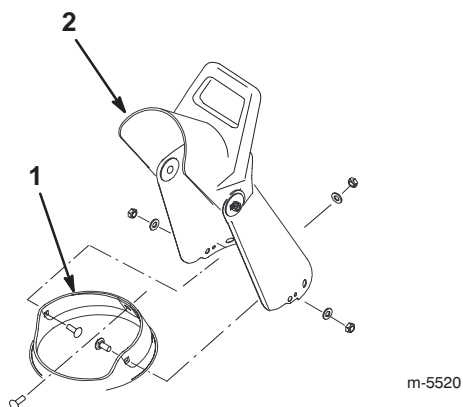

Figure 10
1. Place the discharge chute over the chute ring, and align the hole in the back of the discharge chute with the center hole in the chute ring (Fig. 10).
2. Insert a screw through the center hole of the chute ring from the inside and through the hole in the discharge chute (Fig. 10).